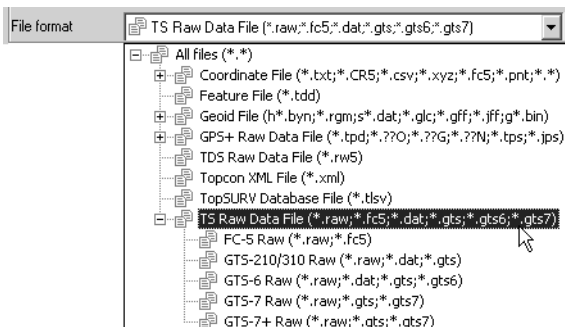

Figure 3-29. File Format List
- the File format (Figure 3-29).